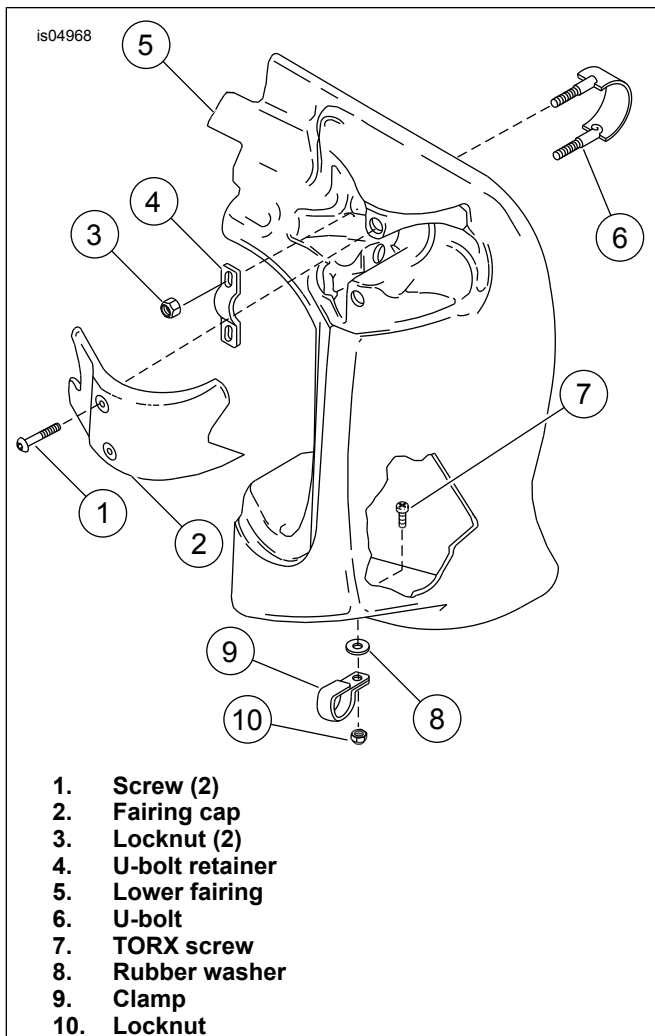

Figure 1. FLHR/I or FLHT/C/I Accessory Lower Fairing
1. See Figure 1. Remove the two screws (1) that attach the fairing cap (2) to the lower fairing (5). Remove the cap. Set the parts aside for installation.
2. Remove the screw (7), rubber washer (8), locknut (10) and the clamp (9) that attaches the bottom of the lower fairing to the engine guard and set aside.
3. Remove the two locknuts (3), U-bolt (6) and U-bolt retainer (4).
- See Figure 1. Install the lower fairing to the top of the new engine guard with the U-bolt (6) from the back, through the holes at the top of the fairing. Install the retainer (4) in position on the U-bolt and secure to the engine guard with the two locknuts (3). Do not tighten the locknuts at this time.
- Attach the bottom of the fairing to the engine guard with the clamp (9) removed earlier. Install the clamp around the engine guard in the direction shown, with the tabs toward the rear of the vehicle and the flat side of the clamp against the lower fairing. Insert the screw (7) through the lower fairing, rubber washer (8) and clamp (9). Secure the assembly with the locknut (10). Tighten.